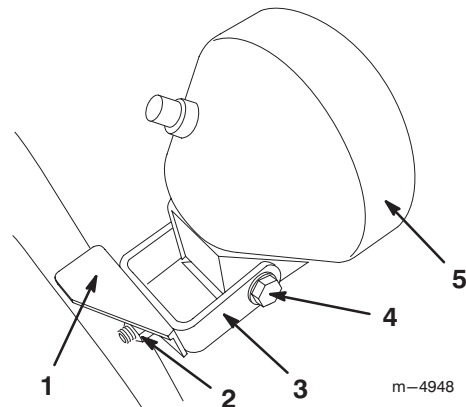

Figure 24
1. Loosen the two nuts on the U-bolt that hold the headlight bracket to the handle (Fig. 24).